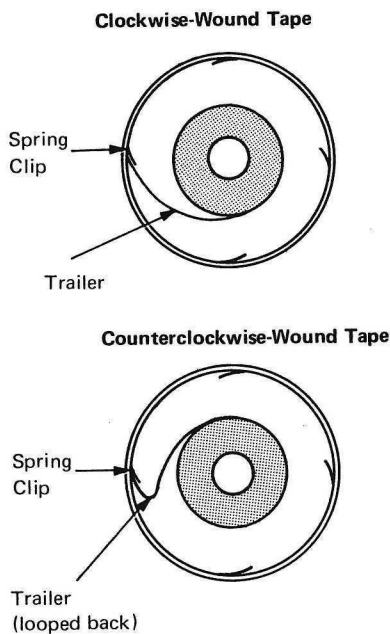

Figure 14. Center-Roll Feature: Identification of Clockwise-Wound and Counterclockwise-Wound Tape [08276]
3. If the tape trailer feeds directly into the spring clip, the reel is clockwise-wound. If the tape trailer loops into the spring clip, the reel is counterclockwise-wound (Figure 14).